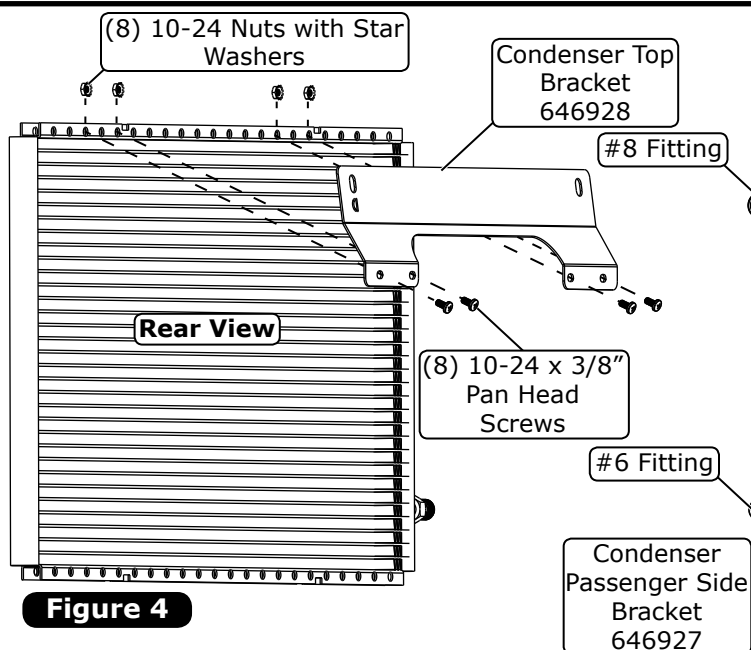

Figure 4
1. On a workbench, install the condenser top bracket onto the back of the condenser using (4) 10-24 x 3/8" pan head screws and (4) 10-24 nuts with star washers (See Figure 4, below). **NOTE: The condenser top bracket mounts to the outside of the flange through the 3rd and 5th holes from the left and the 6th and 8th holes from the right.**